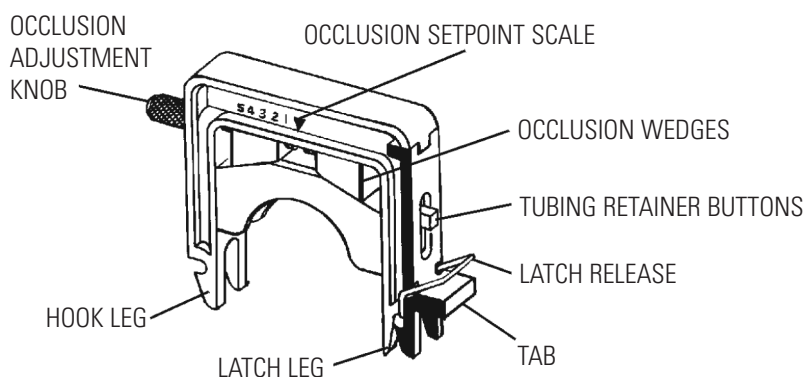

Figure 2-5. Cartridge Assembly
1. Turn the Occlusion Adjustment Knob (see Figure 2-5) counterclockwise to maximum open. This step is not necessary when the occlusion is set at the factory setting or if the occlusion has already been set appropriately during previous pumping.
5. Swing the Cartridge with the tubing over the rotor and push down on the Tab (see Figure 2-5) until the latch snaps closed (see Figure 2-7E).
2. Push down on latch side of Cartridge (see Figure 2-7E) and pull latch leg outward to unhook from rod. The latch Release (see Figure 2-5) can be depressed to aid in this process as desired.